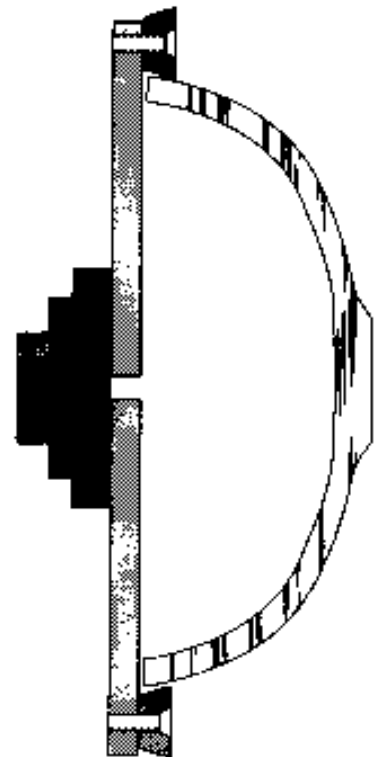

Figure 6. Attach the Jumbo Jaws to your chuck and mount your project to complete turnings.
Step 5: Attach the optional *Jumbo Jaws* (See Fig 6) to your Chuck, mount your completed turning as shown in Fig 11 and finish turning the outside of your project.